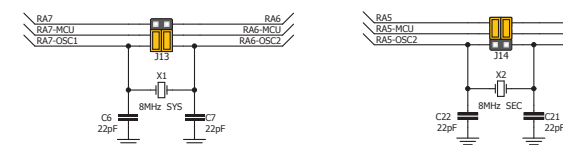

Figure 7: crystal oscillators
**NOTE** When using PIC18F2331 or PIC18F2431 microcontrollers it is necessary to place J20 jumper, in order to route VCC power line to RA5 pin – Figure 7.